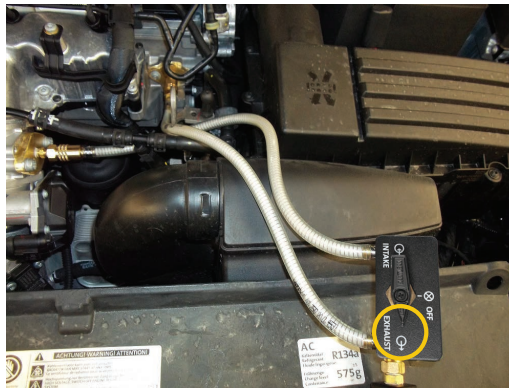

Figure 3
9. Start vehicle engine. Set the BG EF399 manifold to “EXHAUST” (Figure 3).